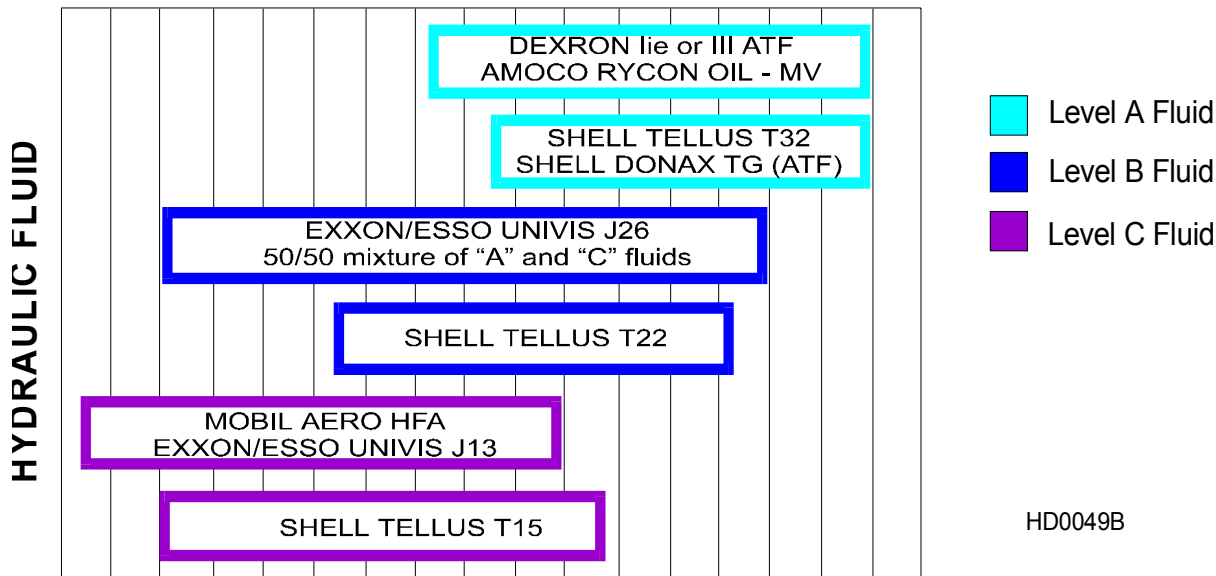

FIG. 3-6
**See Figure 3-6.** If you are operating in temperatures -20° to 100° F (-29° to 38° C), use an all-weather hydraulic fluid such as Exxon Univis J26. For alternate fluids and/or other temperature ranges, refer to the chart below. Operating above the recommended temperature range of a fluid could result in excessive pump wear. Operating below the recommended temperature range could result in reduced hydraulic cylinder speed. To change fluid types, replace one gallon of the current fluid with one gallon of the alternate fluid.